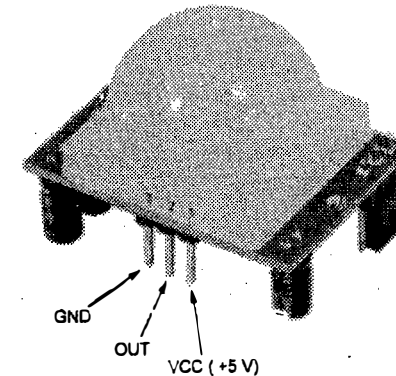

Fig. Q.9.1 : Passive Infrared Detectors (PIR)
- The top view of passive infrared detector is shown in Fig. Q.9.1